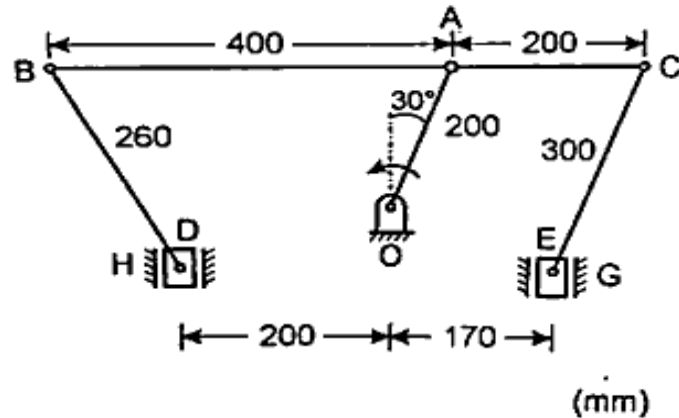

Fig.1 (चित्र 1)
2. In a mechanism shown in Fig.1, the angular velocity of the crank OA is 15 rad/s and the slider at E is constrained to move at 2.5 m/s. The motion of both the sliders is vertical and the link BC is horizontal in the position shown. Determine the